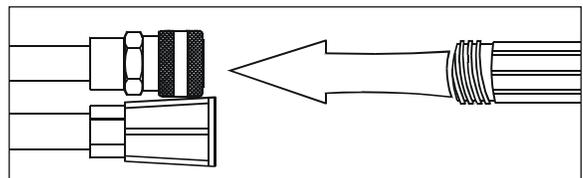

Figure 21 - Backflush 3000 PSI Extension
- d. Using a garden hose, remove additional debris by back flushing water (Figure 21) through the nozzle extension. Back flush between 30 to 60 seconds. Turn chemical valve handle in and out to backflush both dual nozzle extension tubes.